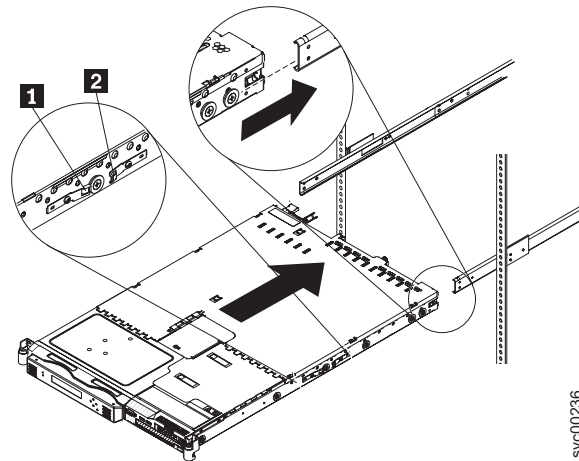

Figure 110. Aligning the SAN Volume Controller 2145-8G4 with the rack slides
2. Align the two rear wheels on the node with the opening in the slides and then push the node into the slides until the rear slide release latches (**2** in Figure 110 on page 445) click into place, locking the node in the slides.
4. Press the front slide release latches (**1** in Figure 110) on both sides of the node and move the node into the rack cabinet and back out to verify that the node moves freely.